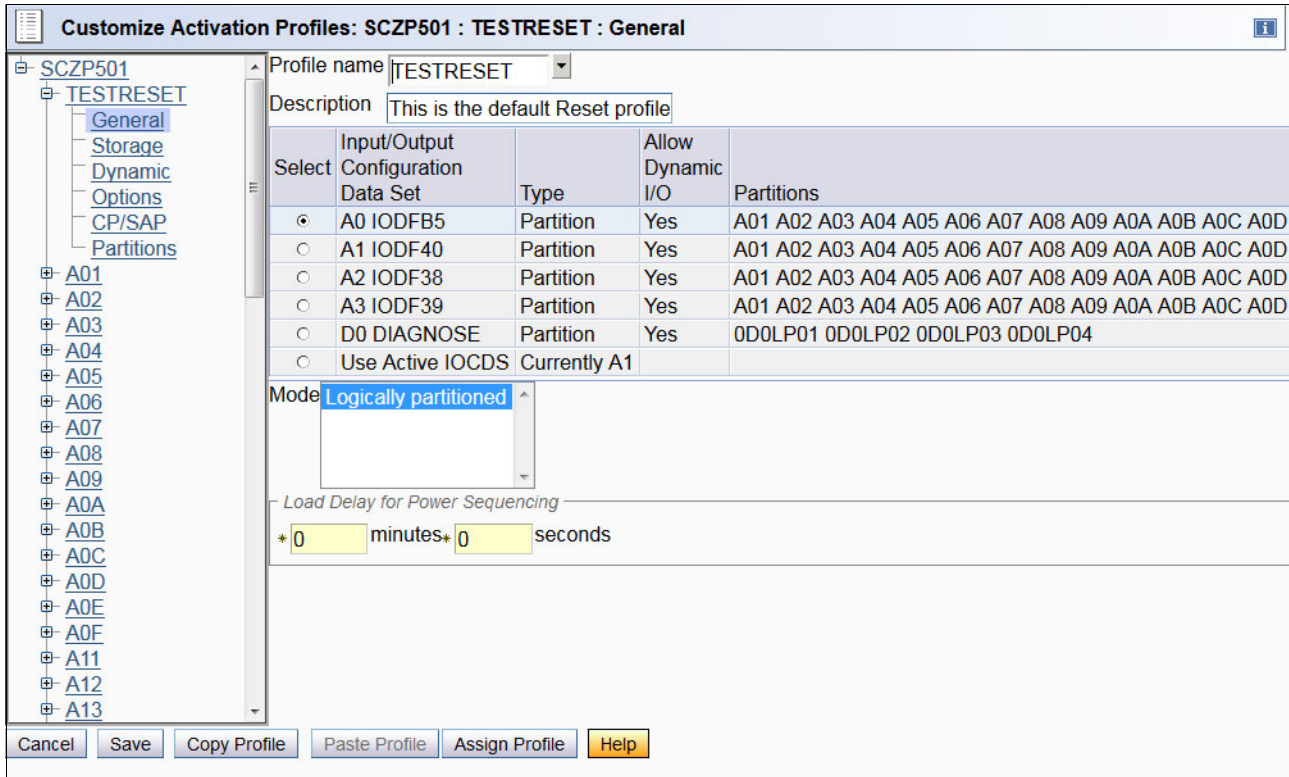

Figure 8-133 HMC - Reset and Image profile list
11. Note the list of LPARs that were retrieved and built based on the LPARs that were defined in the selected IOCDS. Click **Save** (Figure 8-133).